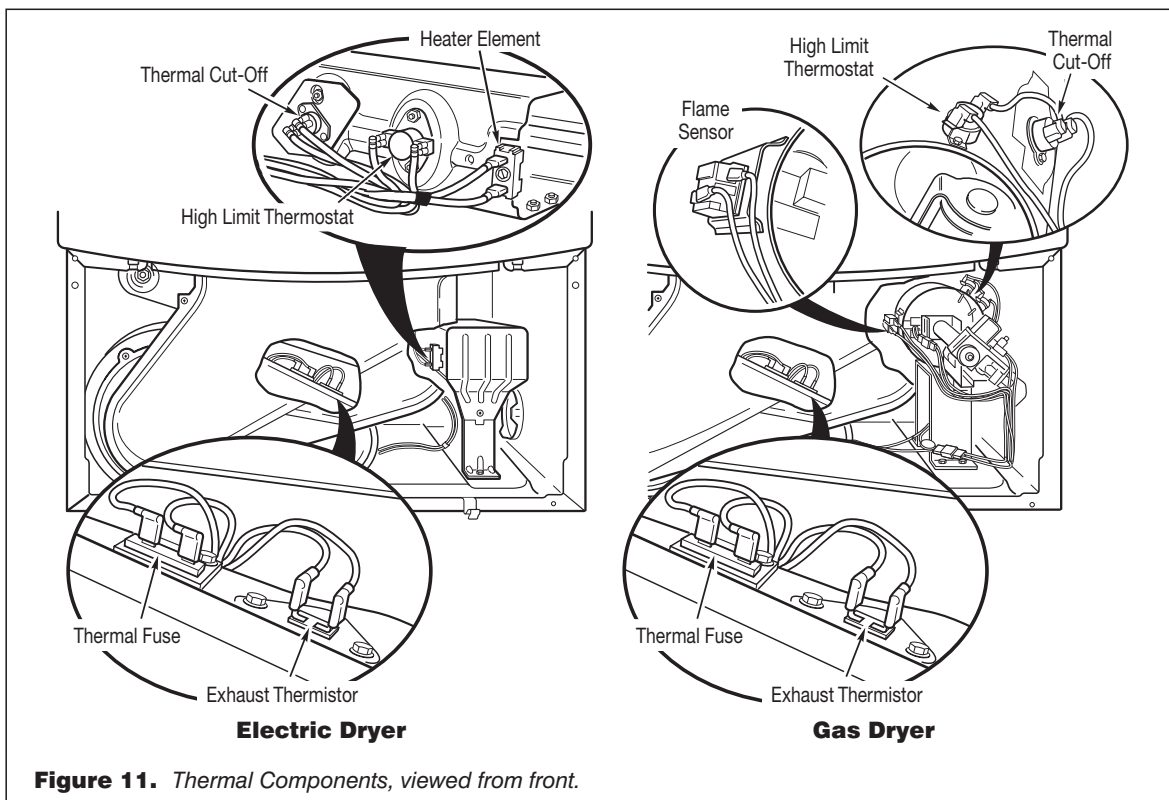

Figure 11. Thermal Components, viewed from front.
Locate the components using figure 11, page 7.
5. Locate the high limit thermostat. See figure 11. Measure the continuity through it by connecting the meter probes on the red wire and blue wire terminals.
- Check wire connections at the machine control electronics and thermistor. See Accessing & Removing the Electronic Assemblies, page 10, and for thermistor location, see figure 11.
- Access the thermal fuse by first removing the toe panel. See Removing the Toe Panel, page 10; and for thermal fuse location, see figure 11, page 7.
- Using an ohmmeter, check the continuity across the thermal fuse. See figure 11 for location.
- Using an ohmmeter, check the continuity across the thermal cut-off. See figure 11, page 7 for location.